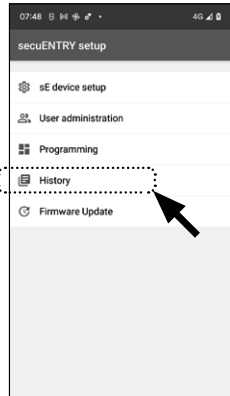

Fig. 89
- 3 Tap on "History" in the submenu (Fig. 89).